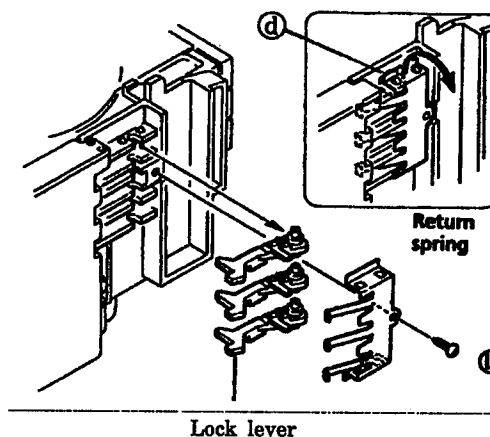
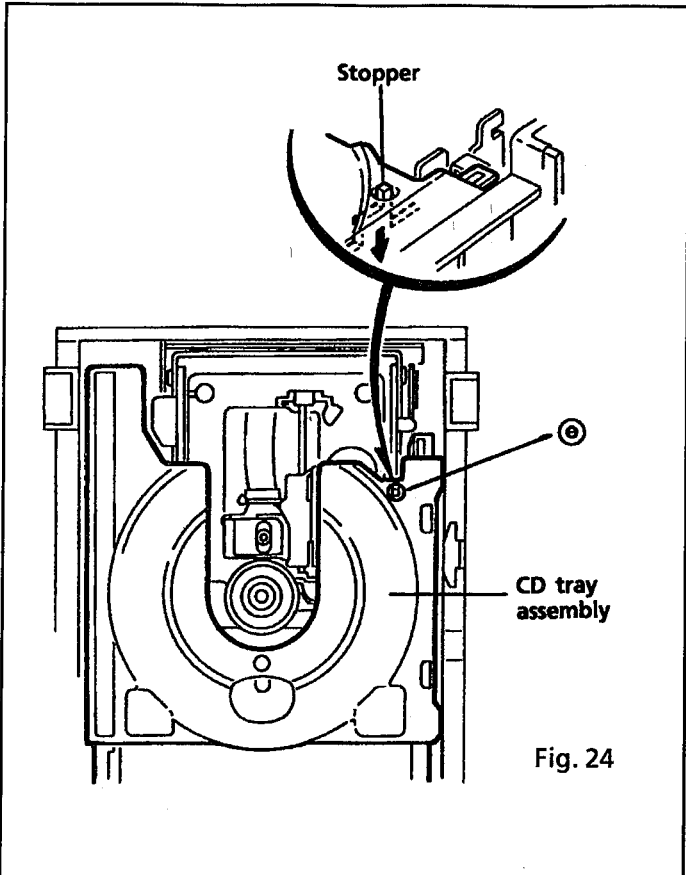

Fig.23
Fig. 24
7. Remove a screw ①which secures the return spring and lock levers from the chassis ass'y.(See Fig. 23.)
8. Remove 2 pawls④ which slightly secure the return spring to remove it.
10. Check that the lifter unit stopper is inserted into hole ⑤ located on CD tray ass'y. (See Fig. 24.)